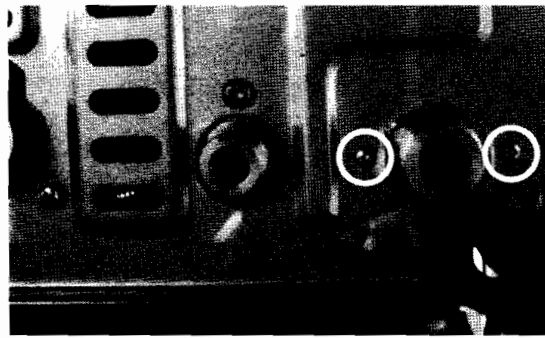

Figure 36
- ☐ Remove the fixing screws from the pump and hydraulic block at the bottom of the boiler (Figure 36).